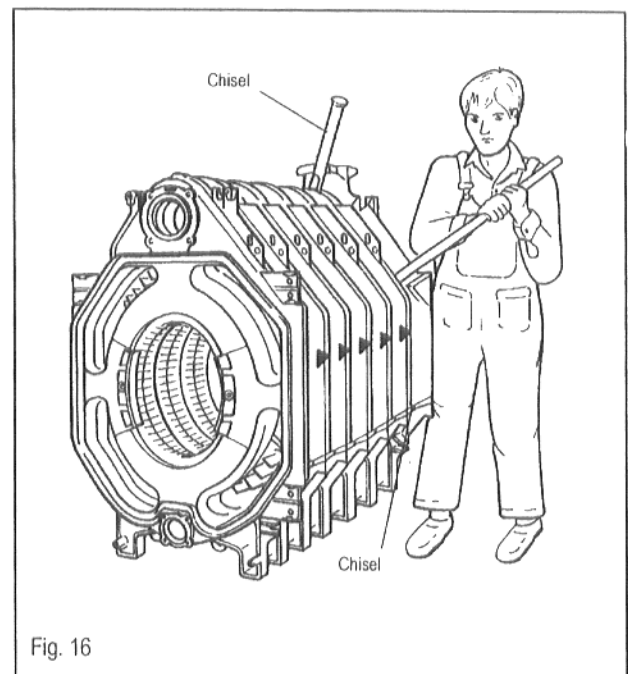

Fig. 16
- Split the boiler at the leaking joint by driving chisels at the top and bottom between the sections (Fig. 16).